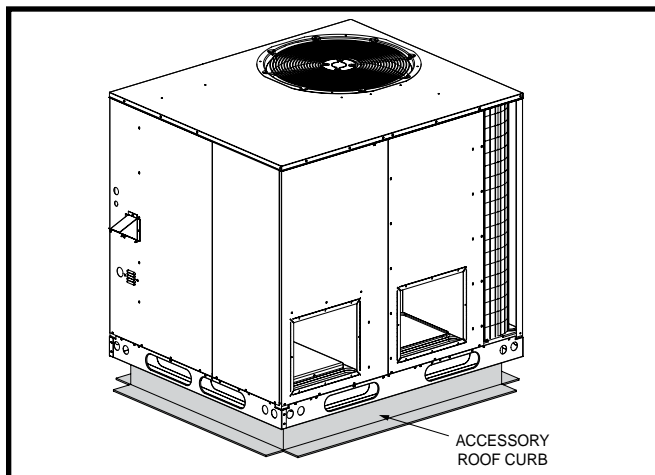

Figure 4. Roof Top Installation
- The appropriate accessory roof curb (Figure 4, page 10) must be installed prior to unit installation. The roof curb must be square and level to ensure proper condensate drainage. **Please follow all instructions provided with the kit.**